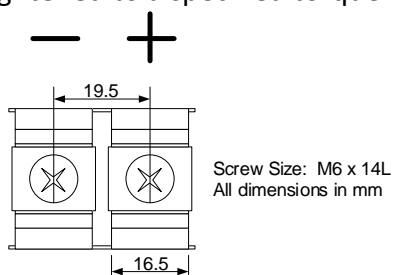

Figure 14 - DC Terminal Block Connections
- Connect the negative and positive cables to the DC terminal block as shown in Figure 14. Connections should be tightened to a specified torque of 2.8 Nm (25 in-lb) +/- 5%.